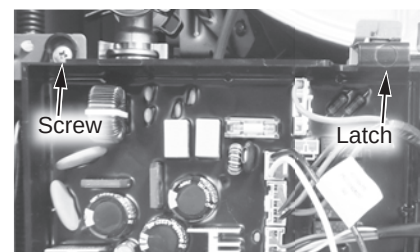

Figure 158 - Control board panel location
- 15 Locate the screw securing the control board panel. Use a Phillips screwdriver to remove the screw and place it aside in a safe place for reinstallation. See Figure 158.